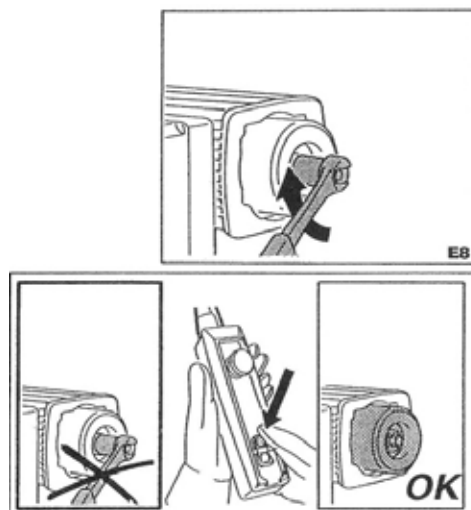

fig.104
8. Gradually tighten the screw of the clutch device and lift. Repeat the operation until sufficiently tight to lift the sample weight and NOT OVER. (fig.104)